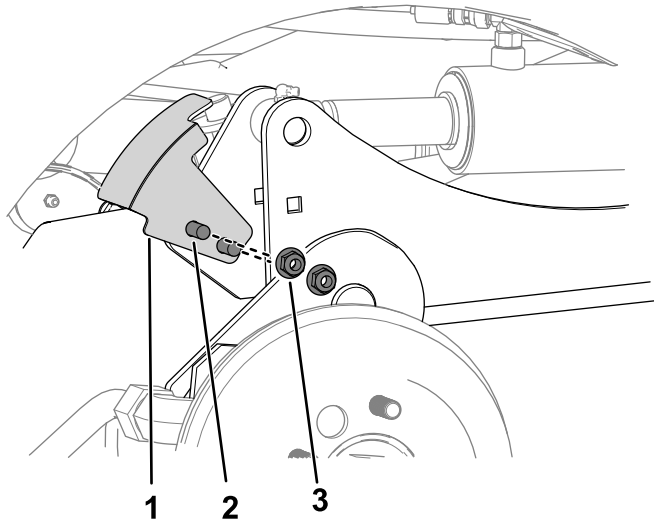

**Figure 7**
4. Use 2 nuts (3/8 inch) and 2 bolts (3/8 x 2-3/4 inches) to secure the large pins to the frame (Figure 7).